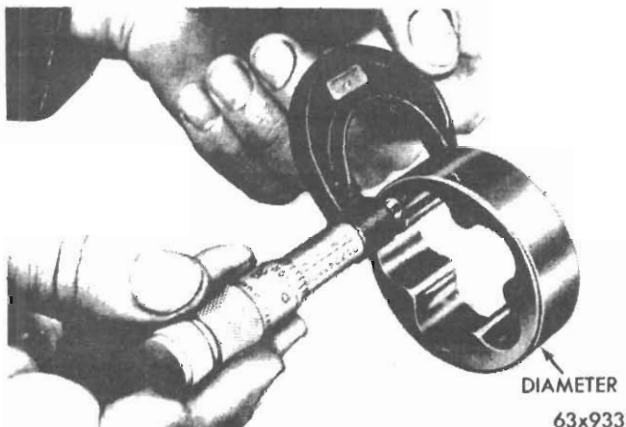

Fig. 4 - Measuring outer rotor thickness (typical)
(3) Measure diameter and thickness of outer rotor. If outer rotor measures less than .825" (Fig. 4) and the diameter is less than 2.469", install a new outer rotor.
(4) Measure thickness of inner rotor and lift out the inner rotor and shaft.
(1) The mating face of the oil pump cover should be smooth. If cover is excessively scratched or grooved, it should be replaced.
(2) Check for excessive cover to rotor wear by laying a straightedge across cover surface. If a .0015 inch feeler gauge can be inserted between the cover and straightedge, discard cover and install a new one.
(3) Measure diameter and thickness of outer rotor. If outer rotor measures less than .825 inch (Fig. 4) and the diameter is less than 2.469 inches, install a new outer rotor.
(4) Measure thickness of inner rotor.